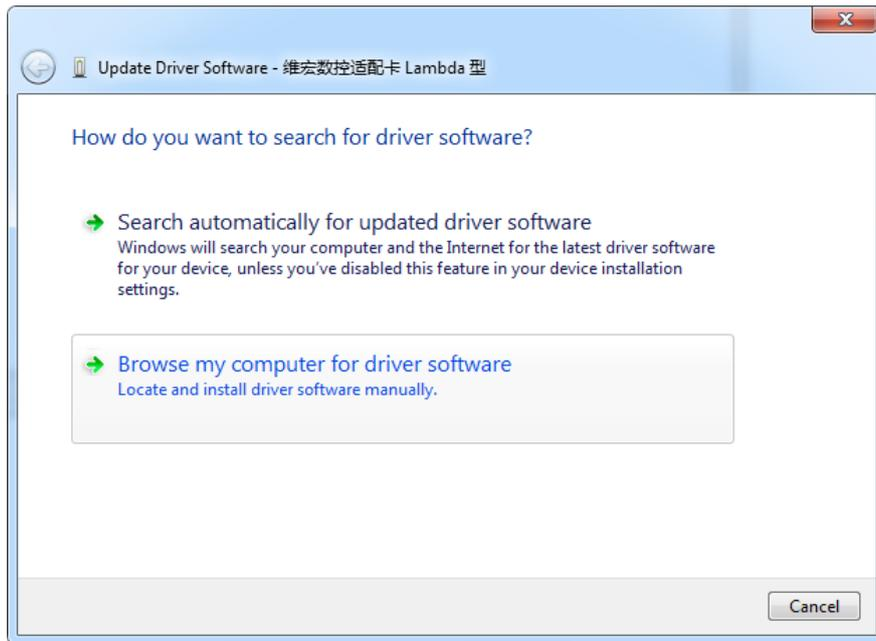

Fig. 1-3 Search for Driver Software
- 2) A dialog box as Fig. 1-3 will pop up. Click “Browse my computer for driver software”.